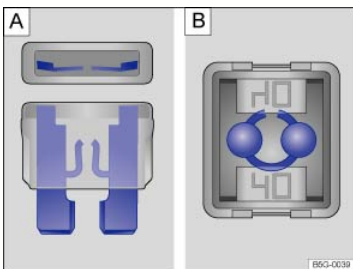

Fig. 149 Blown fuse: : Blade fuse. : JCASE® fuse.
- *For blade fuses (ATO®, MINI®):* Remove the fuse and shine a flashlight on it. This makes it easier to tell if the fuse has blown. A blown blade fuse has metal strips that have burned through, which you can see through the transparent housing from above and from the side ⇒ Fig. 149 A.
- *For cartridge fuses (JCASE®):* Shine a flashlight on the fuse. This makes it easier to tell if the fuse has blown. A blown cartridge fuse has metal strips that have burned through, which you can see through the transparent housing from above ⇒ Fig. 149 B.